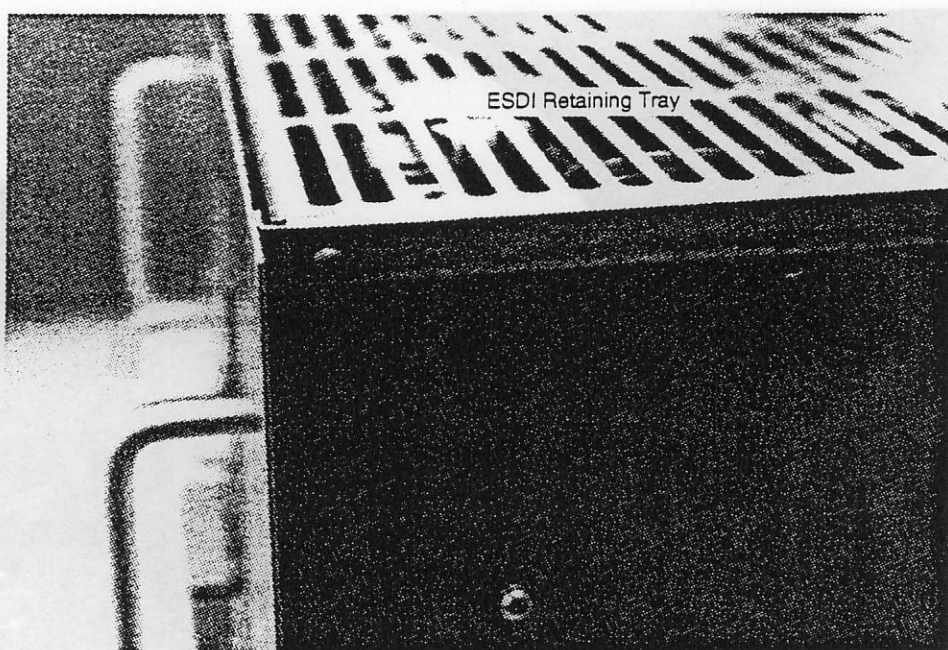

Figure 7-43. ESDI Retaining Tray
6. Remove the two retaining-tray screws, one on each side. Refer to Figure 7-43.